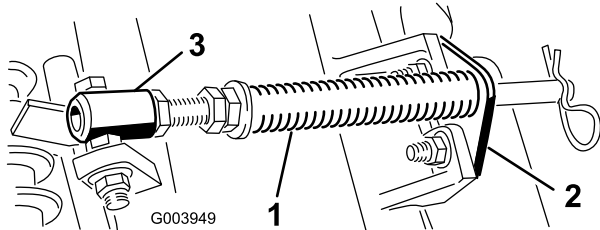

Figure 4
- A. Remove the 2 carriage bolts and nuts securing the rod bracket to the cutting-unit tabs (Figure 4).
- B. Remove the flange nut securing the spring tube bolt to the carrier-frame tab (Figure 4). Remove the assembly.